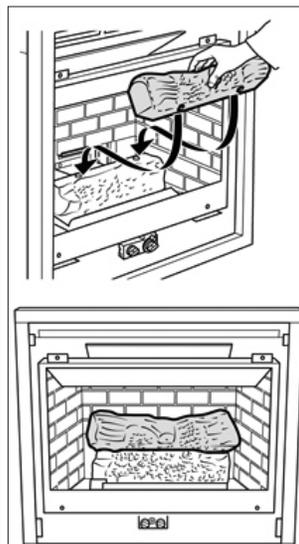

Figure 36 Rear log
2. Place the rear log in position locating the two pins in the top of the wedge into the holes in the rear log. See figure 36.